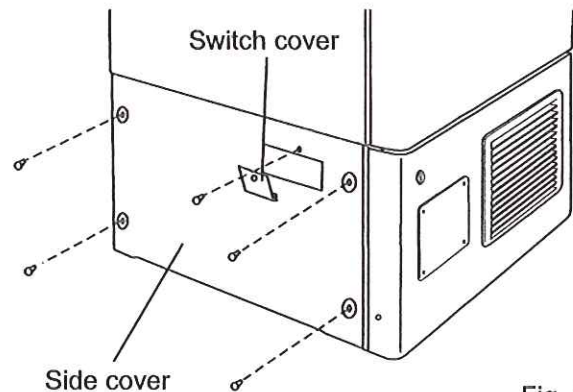

Fig. 2
2. As shown in the Fig. 2, remove 5 screws fixing the side cover and the switch cover with a screw driver and remove the side cover.